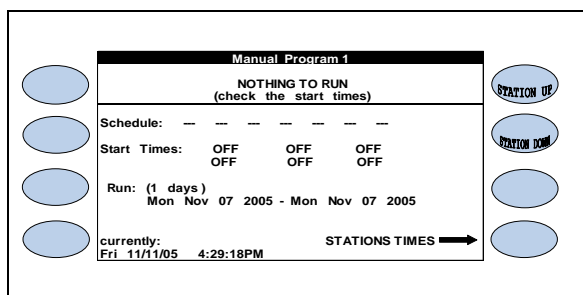

Figure 10.8
1.  Press the **MANUAL PROGRAM 1** Menu key to access the MANUAL PROGRAM 1 screen (Figure 10.8).